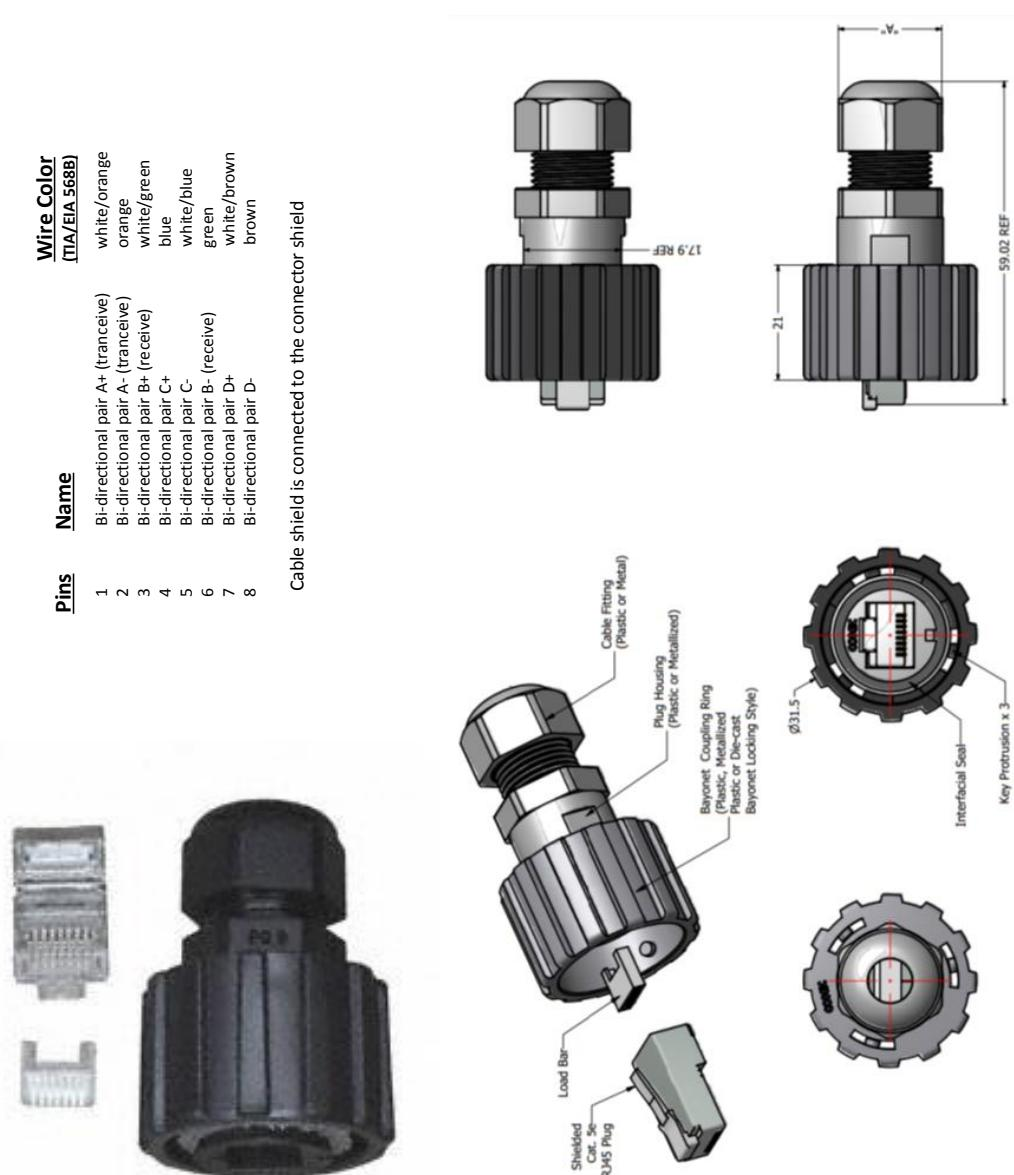

Figure 3.36: SLANM(SH): Shielded Special Ethernet Industrial Connector (Male)
- Picture and pinout: see figure 3.36